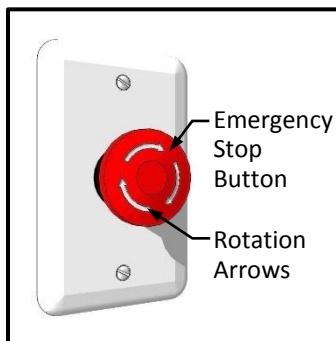

Figure 5
- 9 The emergency stop button shuts down the dumbwaiter when pressed. The dumbwaiter will not function until the emergency stop button is popped back out by rotating the red button a quarter turn clockwise (the same direction the arrows point). (see Figure 5)